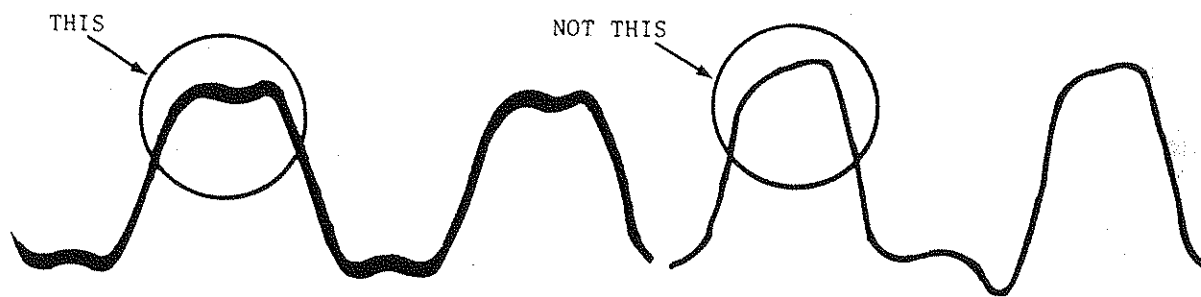

Figure 5-9. Correct Power Amplifier Waveform Requirements
- a. Place the oscilloscope probe through the top screen approximately 1 inch into the PA enclosure. Depress HIGH VOLTAGE ON pushbutton switch, adjust PA PLATE EFFICIENCY RESONATOR control 1L5, for a maximum efficiency reading on the power meter and correct waveform as shown in figure 5-9.